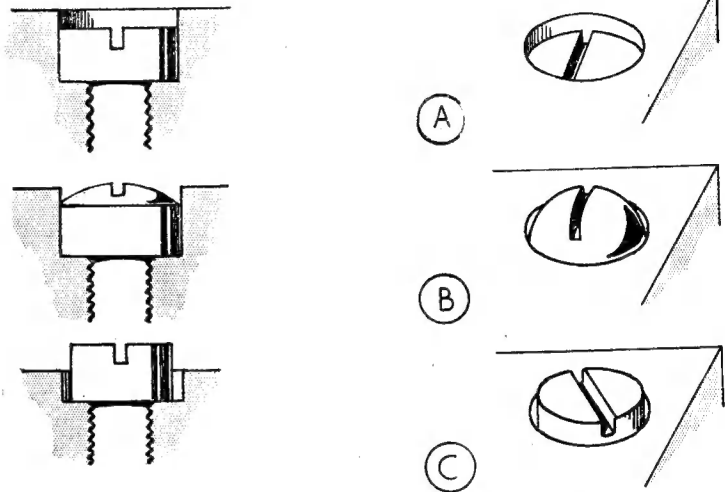

Fig. 5. Showing errors in fitting screw heads
If the finished work is to look right, any screw heads appearing on the surface must be properly fitted. The sunk screw head, Fig. 5 (A), not only looks unsightly, but dirt and chips collecting in the recess round the head will be difficult to remove. The filister-head screw, shown in Fig. 5 (B), is used in instrument work and should be fitted with
the base of the curved portion level with the work surface; Fig. 5(B) illustrates the wrong way of fitting the screw. When, as in Fig. 5 (C), the screw head stands proud, other parts will be unable to seat properly on the work surface. Moreover, the recess for the screw head is, here, too wide and too shallow, but reducing the length of the head, instead of deepening the recess, will weaken the screw.